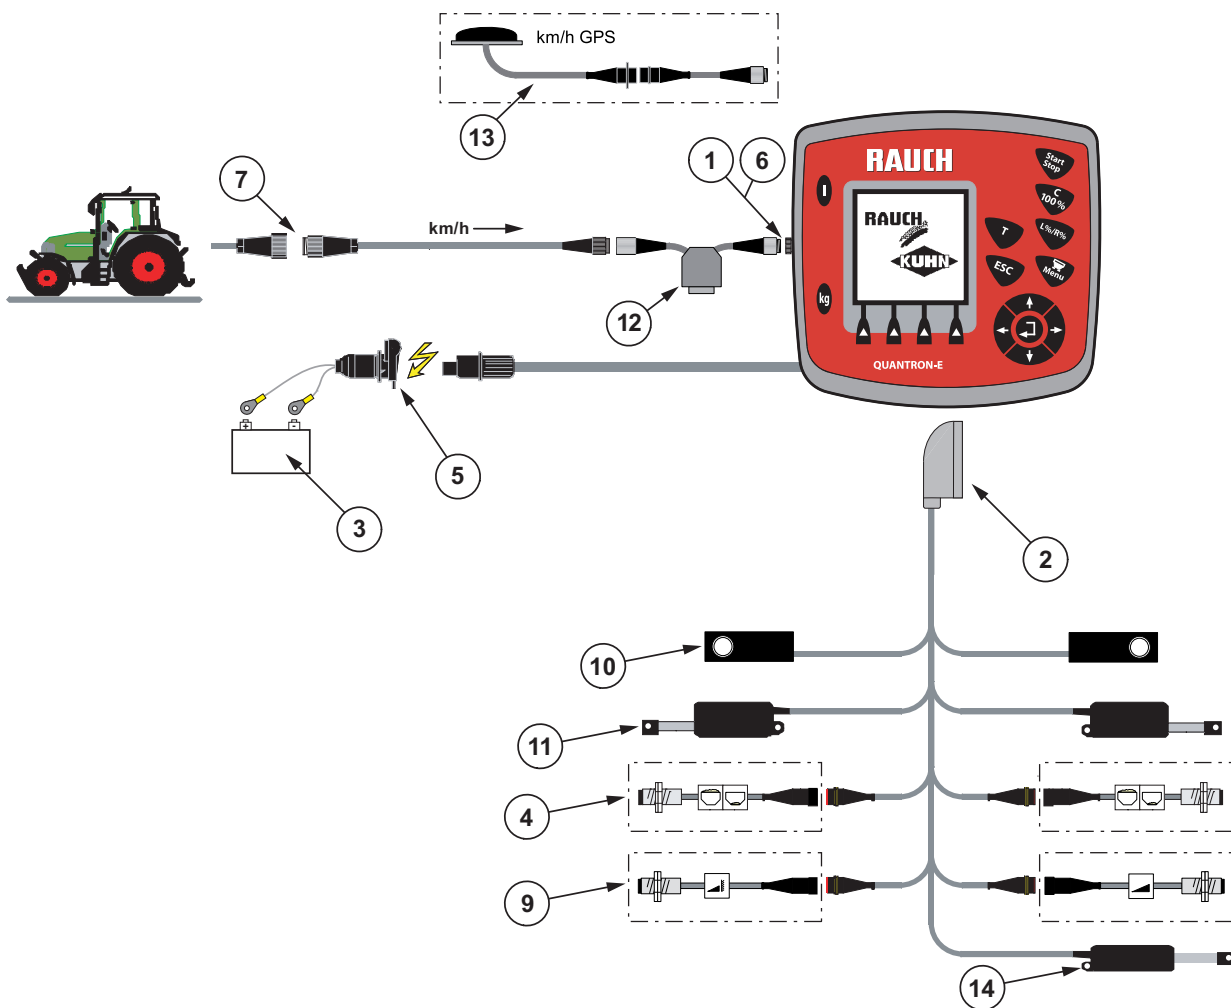
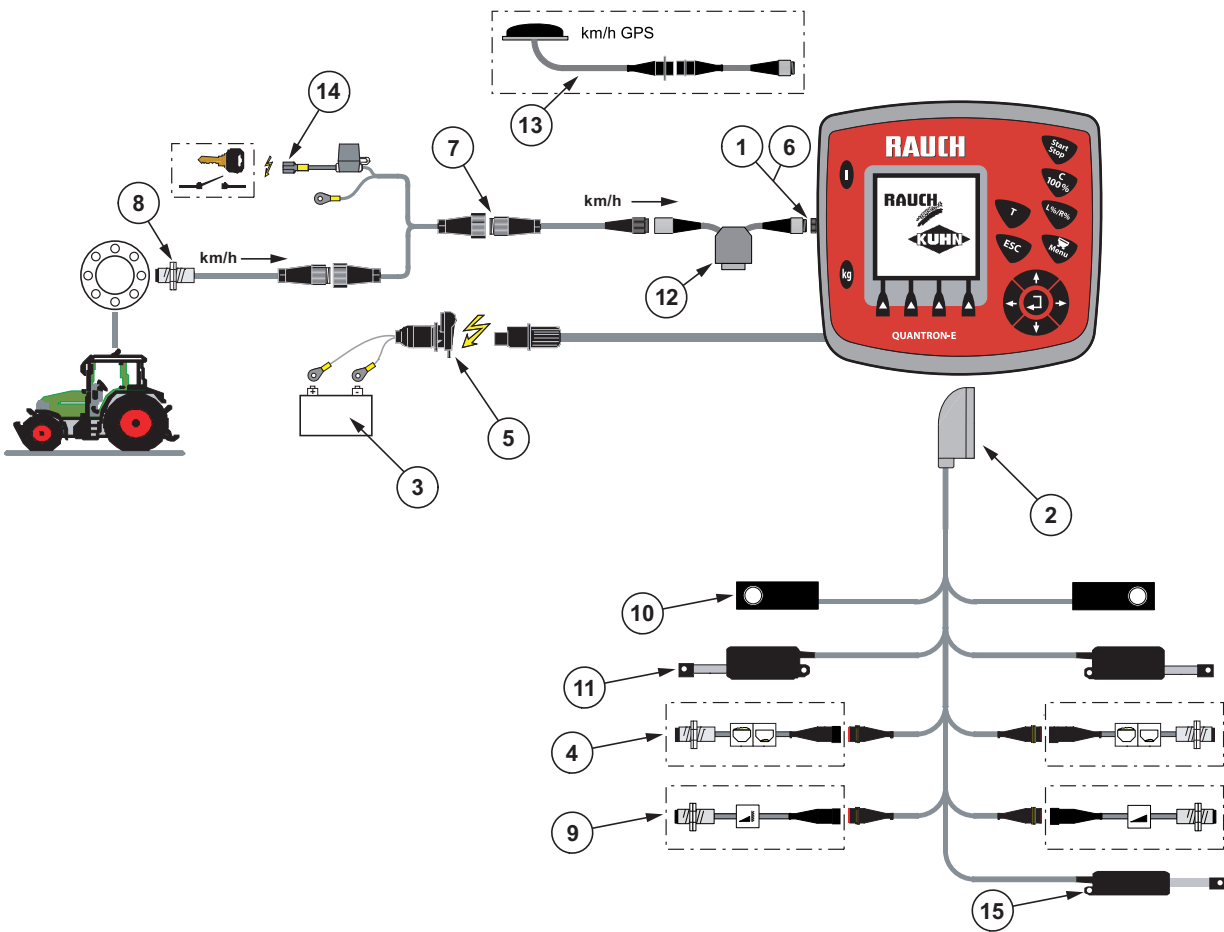

Figure 3.3: Schematic terminal diagram Quantron E (machine cable)
Figure 3.5: Schematic terminal diagram Quantron E (machine cable)
The 7-pin socket for the tractor and the ground speed sensor can be obtained as an expansion kit (Option), see Figure 3.3 to Figure 3.5.
- Connect the control unit to the 7-pin socket or to the ground speed sensor (depending on the equipment package, see Figure 3.3 to Figure 3.5).